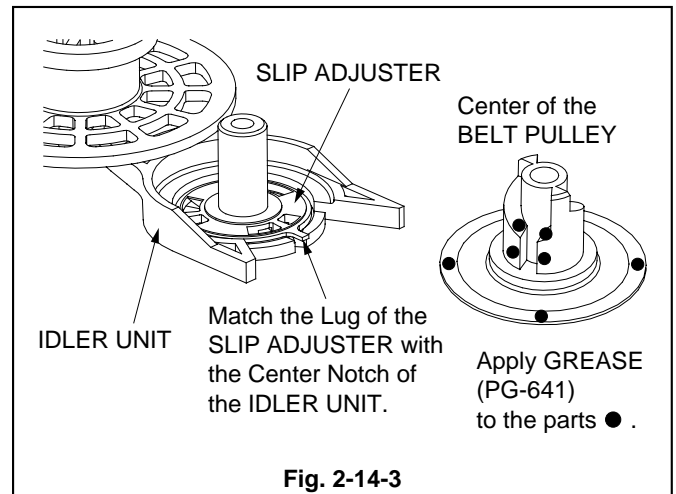

Fig. 2-14-3
6. Apply GREASE (PG-641) [859D055O30] to the parts on the new BELT PULLEY specified in the Fig. 2-14-3.
8. Install the SLIP ADJUSTER shown in the Fig. 2-14-3, matching the Lug of the SLIP ADJUSTER with the Center Notch of the IDLER 2 UNIT.